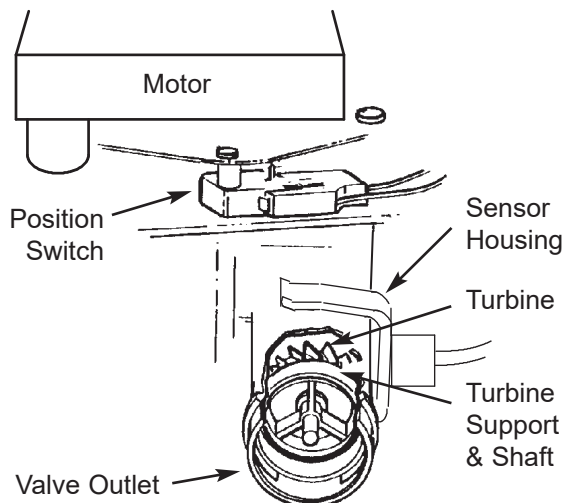

FIG. 47
**TURBINE OPERATION:** If no water is flowing through the softener, the turbine indicator displays three zeros. When water is flowing, a 000 to 140 count repeats for each gallon of water passing through the turbine. To check for positive operation of the turbine if zeros are shown, open a nearby soft water faucet and observe the turbine count. If you don't get a reading in the display with faucet open, pull the sensor housing from the valve outlet port (see Fig. 47). Pass a small magnet back and forth in front of the sensor. You should get a reading in the display. If you get a reading, unhook the inlet and outlet plumbing and check the turbine for binding.